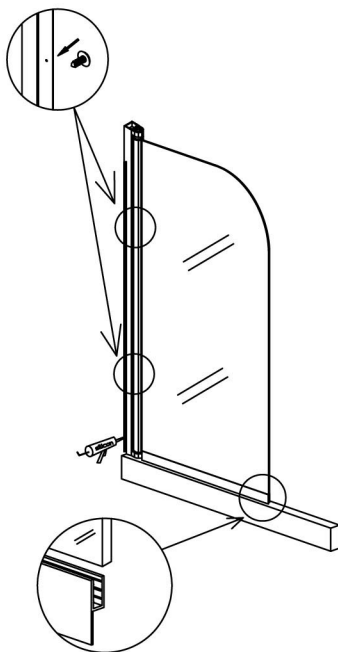

Fig.3
- (Fig.3) put the glass door into the aluminum channel, and fix them with 3.5X16 screw in the inside surface of wall profile. Place caps to conceal screws.
- (Fig.3) Put the hard plastic strip onto the down edge of glass door to stop water coming out.